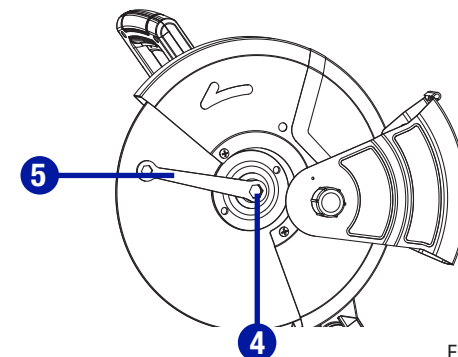

Fig. 17
- When the spindle lock button engages the arbour, loosen the arbour bolt (4) by turning it counter-clockwise using the arbour wrench (5) supplied. (Fig. 17)
- Remove the arbour bolt (4), small flange (6), outer flange (7), abrasive wheel (8), inner washer (9) and